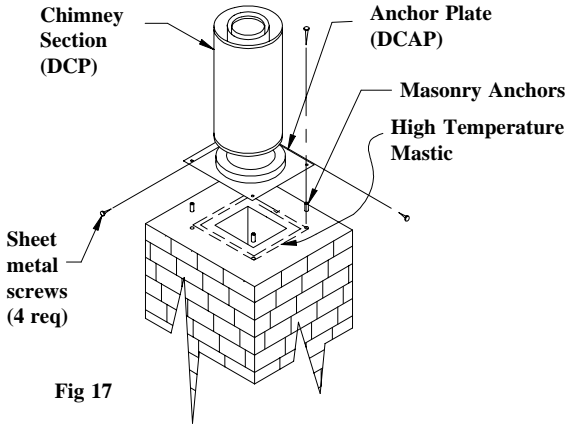

Fig 17
5. **Install Anchor Plate:** Install the correct **Anchor Plate (DCAP)** as described in Step 3 for a masonry fireplace. Refer to Fig. 17.